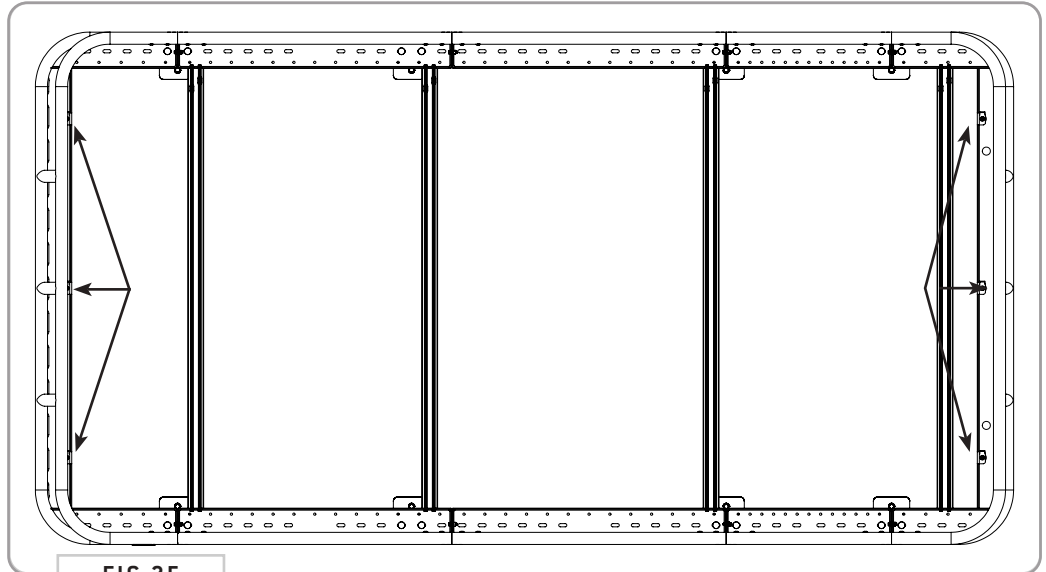

FIG 25
**10.1 Attach Clip Nuts to Baskets:** Install the **Clip Nuts** to the **Front and Rear Basket** locations as shown in FIG 25.